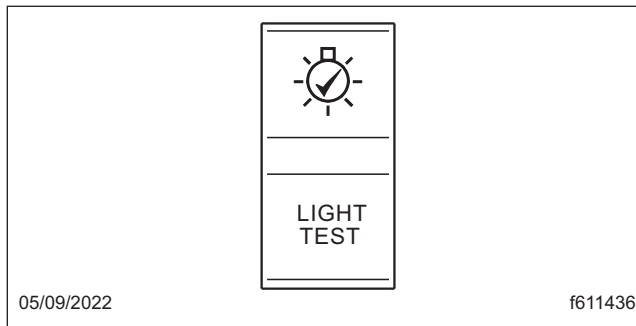

Fig. 22.8, Pretrip Light Test Switch
13. To check the exterior lamps using the dash LIGHT TEST switch, shown in Fig. 22.8, or key fob Lamp Check button, shown in Fig. 22.9: